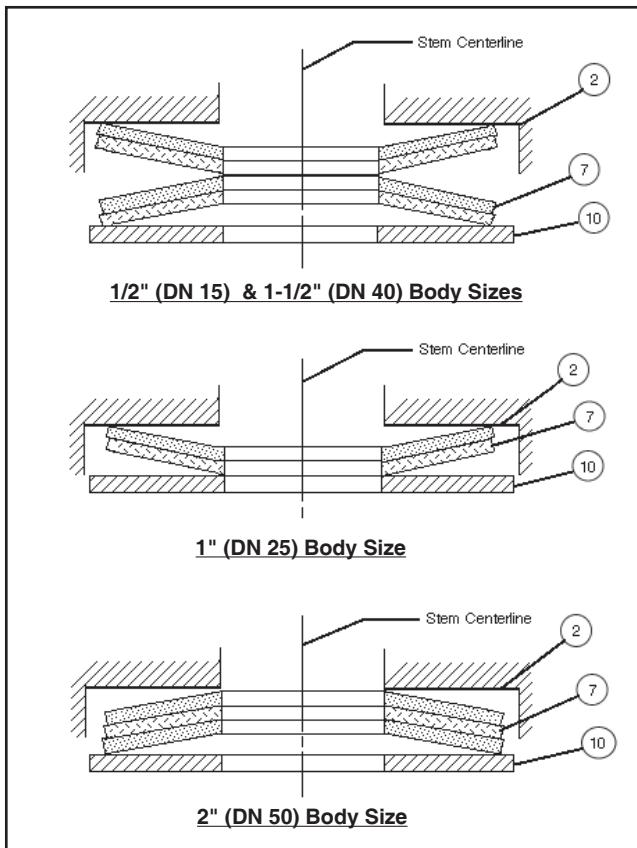

Figure 7: Belleville Spring Washer Orientation
1. Place body assembly (BA) (1) in a vise with the bonnet (2) end directed upwards.
2. Join the stem sub-assembly (9) to the bellows sub-assembly (8) (with new plug head (3) already installed) by rotating the stem's (9) lower end into embedded nut (8.2) CW (viewed from bellows (8.1) open end). Rotate the stem sub-assembly (9) as far as possible while hand-grasping the bellows (8.1) **DO NOT USE A WRENCH IN THIS OPERATION.** A light coat of Fluorolube (TM of Occidental Chemical Co.) lubricant may be applied to the engaged (threaded) end of the stem sub-assembly (9) if fluid compatible.
3. Place spacer washer (10) over the threaded upper end of stem sub-assembly (9).
4. Referring to Figure 7 for proper orientation and quantity of Belleville spring washers (7), place the spring washers (7) over the upper end of stem sub-assembly (9).
5. Position a new bonnet gasket (11) into recess of body sub-assembly (1).
6. Observe the underneath side of bonnet (2) where square recess is located. Position combined bellows sub-assembly (8) and stem sub-assembly (9) so that the anti-rotation "stop" (square part of stem) is aligned to slip into the bonnet's (2) square recess.